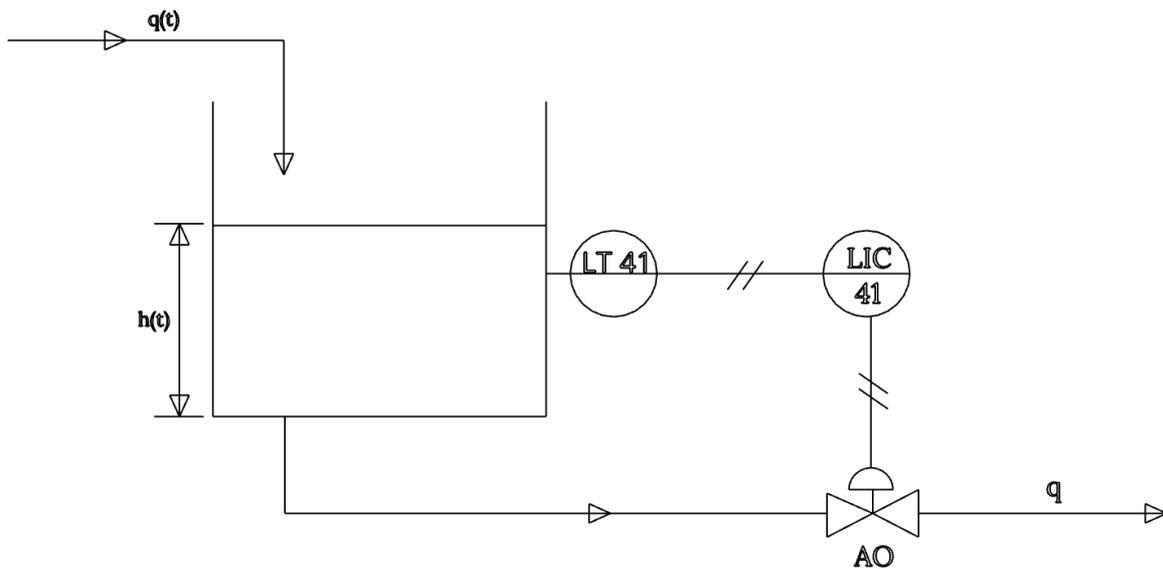

Figure Q3. Liquid level control loop.
3. (a) Consider the level control loop shown in Figure Q3. The steady-state operating conditions are $q(t) = q = 150 \text{ litres min}^{-1}$ (inlet and outlet flow rates are the same) and $h = 6 \text{ m}$, which is the desired height. For this steady state, the AO (air-to-open) valve requires a 9 psig signal. The level transmitter has a range of 0-20 m. A proportional only controller, $K_c = 1$, is used in this process. Calculate the offset if the inlet flow increases to $170 \text{ litres min}^{-1}$ and the valve requires 10 psig to pass this flow. Report the offset in psig and meters. [10 marks]